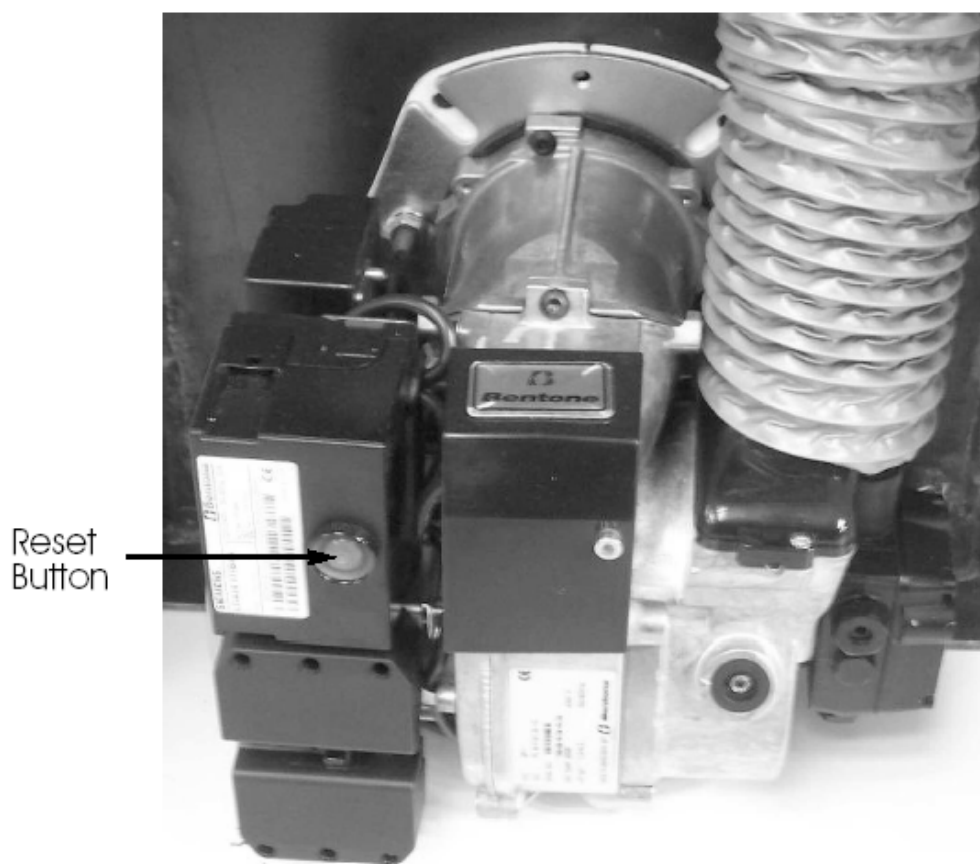

Fig. 1
The lock out indicator will illuminate when the burner has failed to fire, e.g. No fuel or an electrical fault. Wait for two minutes then press the manual reset button (coloured red – Fig 1) on the control box to reset.
- Press the Burner Reset Button on the burner Control Box, which will be illuminated. The Burner Reset Button (illuminated)(Fig 1) will go out and the burner will commence the ignition start sequence. After 15 seconds the Burner should fire normally.